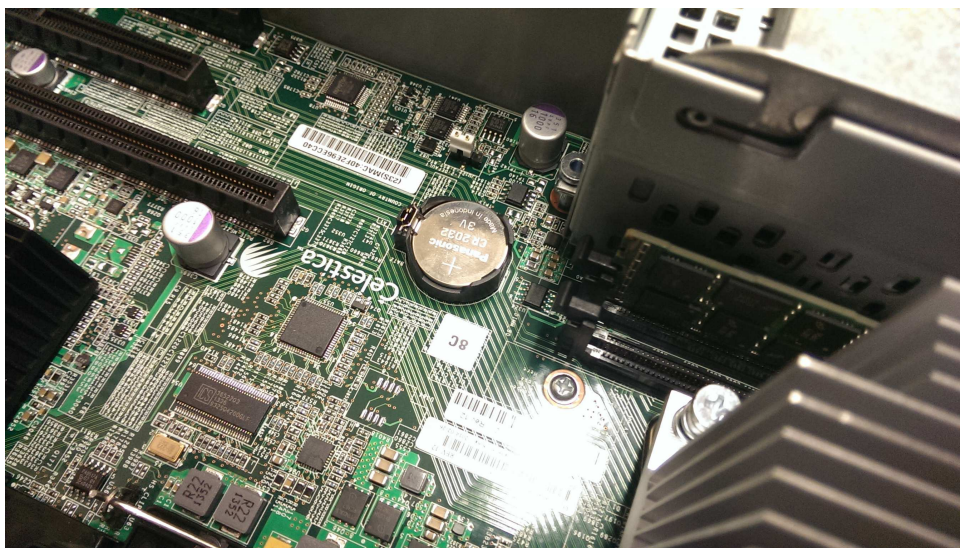

Figure 85. Replacing a CMOS Gen2 battery
3. Locate the CMOS battery inside the node canister.. See Figure 85 on page 258